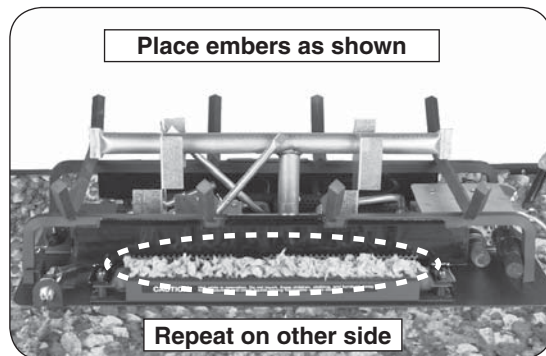

Fig. 16-2 Place glowing embers
1. Place the glowing embers evenly over the entire surface of the ember burner as shown in Fig. 16-2. **Break up any clumps that may have developed during shipment. Store unused embers for later use/replacement.**